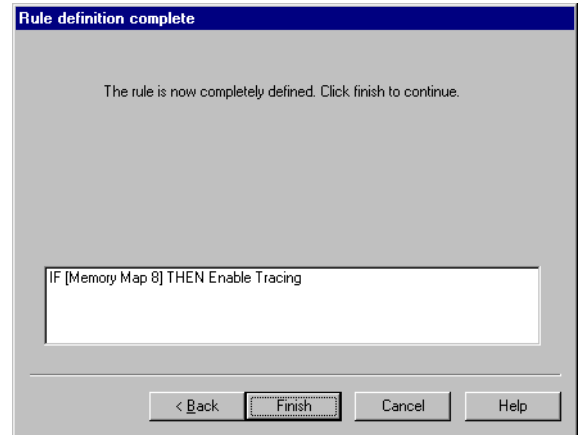

Figure 5-13 Defining an ASIC Memory map resource
4. Click **Next>**. The Rule definition complete dialog box is displayed straight away, because no more information is required. See Figure 5-13 on page 5-27.
3. Click **Next>**. The Rule definition complete dialog box is displayed straight away, because no more information is required. (Figure 5-13).